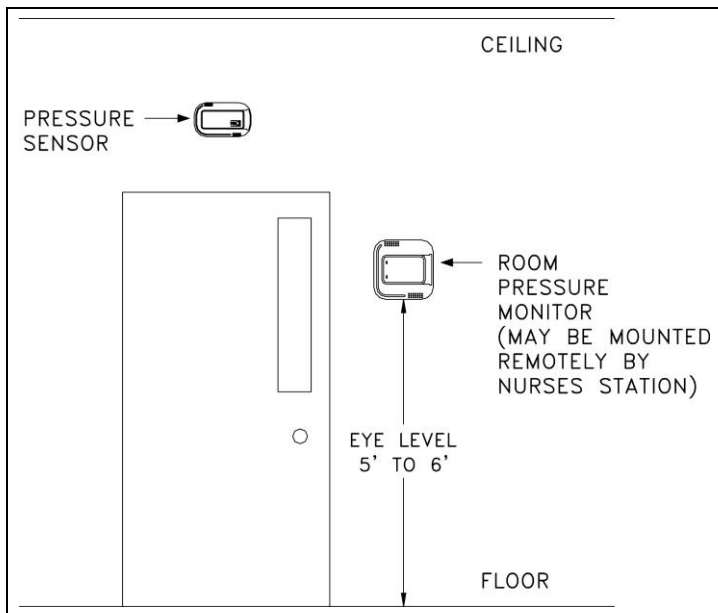

Figure 1: Typical Installation
1. Determine pressure sensor location (Figures 1, 2 and 3). Pressure sensor typically mounts in the reference space, and the dummy housing mounts in the isolation room.
1. Select the mounting location of the pressure controller. The construction plans normally show the mounting location. If no location is specified, then the unit is typically installed as shown in Figure 1. Alternate mounting locations are nurse's station, other staff areas, etc.